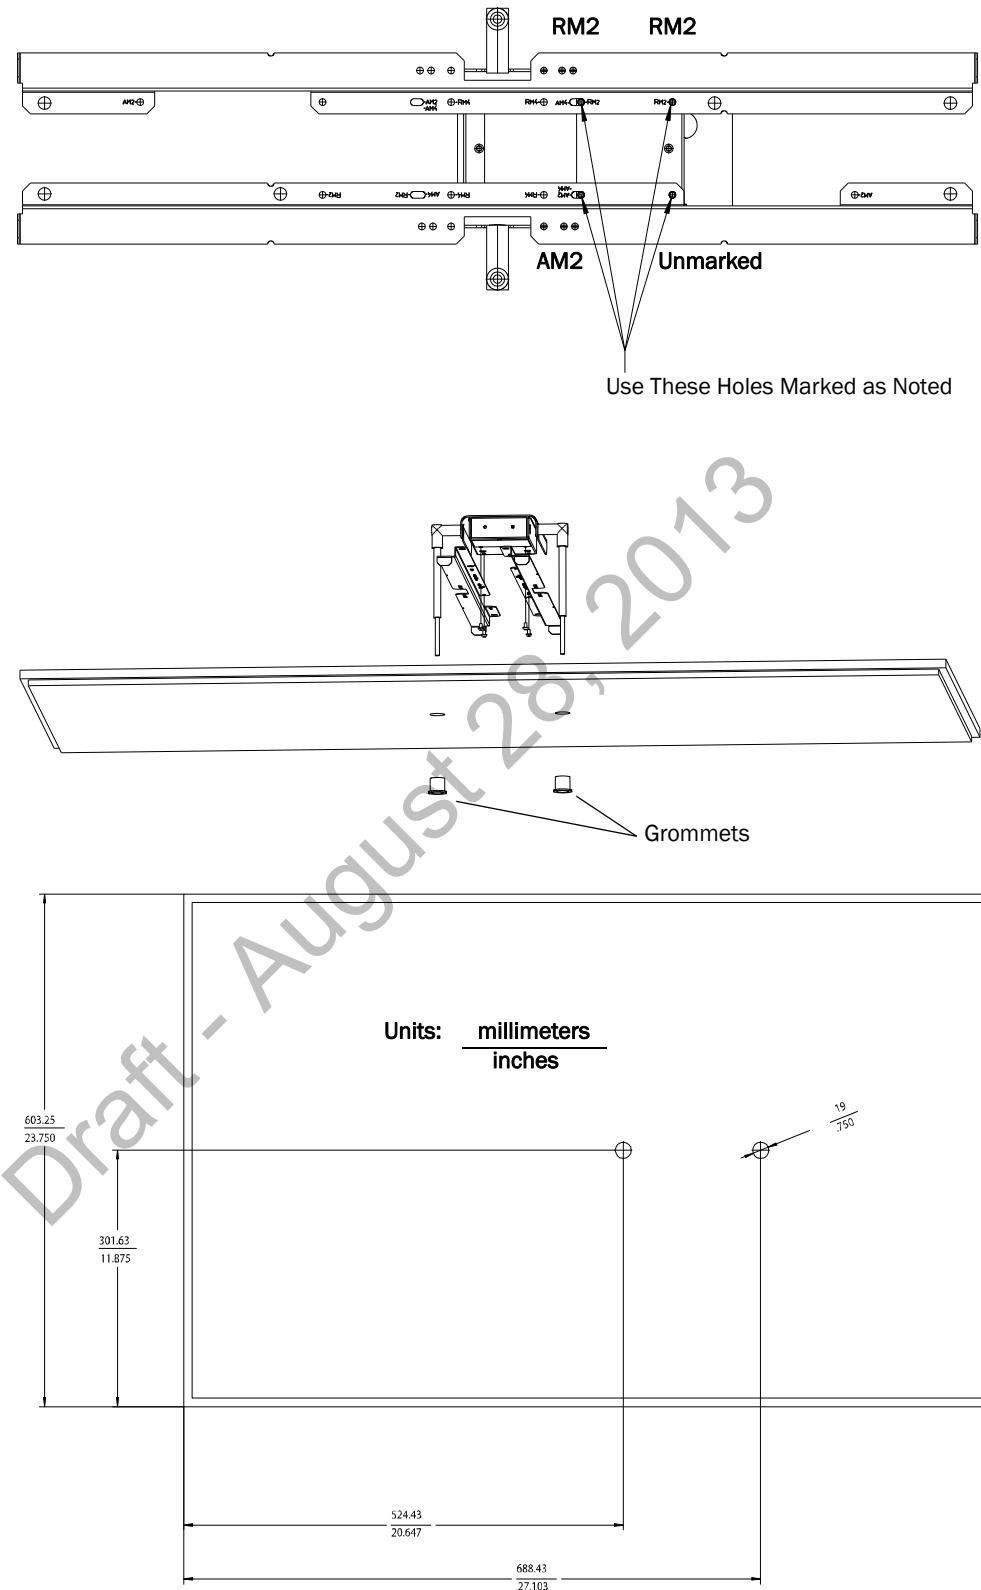
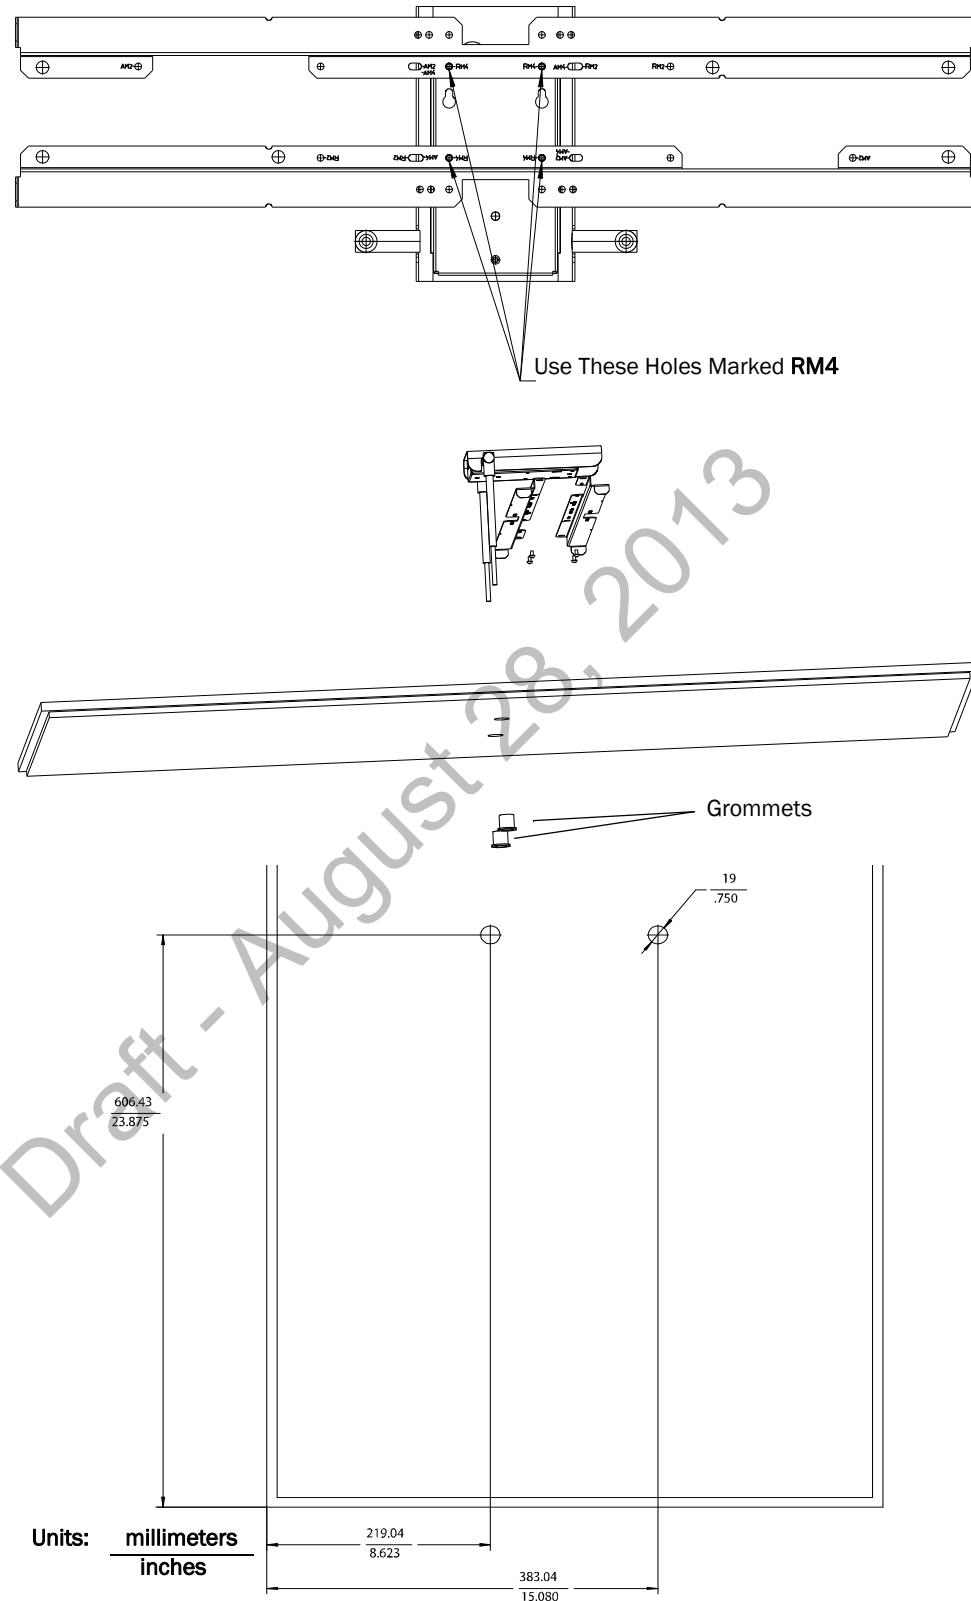
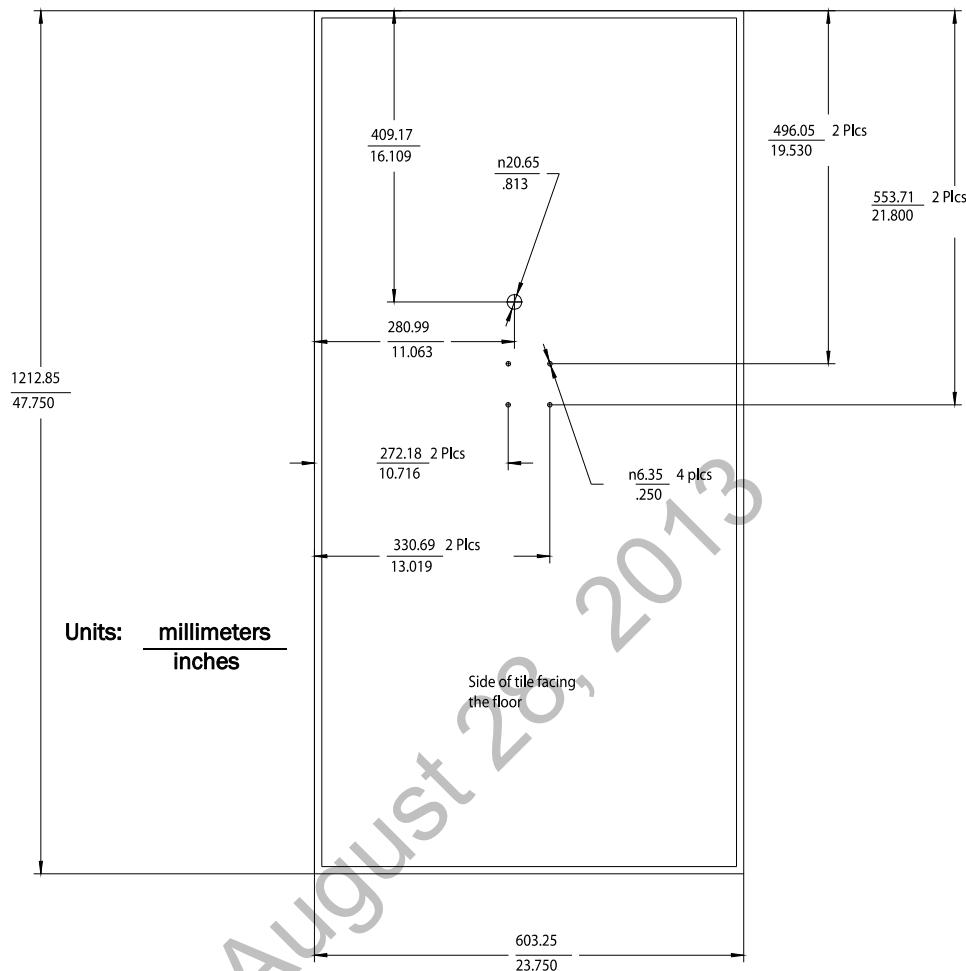

Figure 2-16: Possible Above the Ceiling Remote Antenna Mounting Position
Figure 2-17: Alternative Above the Ceiling Remote Antenna Mounting Position
Figure 2-18: RA Below Ceiling Tile Hole Locations and Dimensions
The RA chassis can be rotated 90 degrees to the mounting rails. Choose the best placement of the RA to facilitate where the antennas will go through the ceiling tile. Note that there are two holes in the RA chassis to allow for tethering to other permanent structures where local building codes require this type of installation. Refer to Figure 2-16 or Figure 2-17 for the dimensions to locate the antenna holes in the ceiling tile.
6. Secure the mounting rails to the RA. Insert the four (4) M3 X 0.5 (8 mm LG) screws into the RA mounting rail holes, and into the mating holes in the back of the RA chassis as shown in Figure 2-17 or Figure 2-18. Torque-tighten each screw to 8-inch lbs.
Also, the RA chassis can be rotated 90 degrees. Choose the best placement of the RA to facilitate where the antennas will go through the ceiling tile. Refer to Figure 2-16 or Figure 2-17 for the dimensions to locate the antenna holes in the ceiling tile.
3. Refer to Figure 2-18 for all dimensions and hole locations. Place the mounting rails across the tile (underside of tile). For ceiling tiles that are smaller than standard 2' x 4' size ceiling tile, the mounting rails can be cut down in length at the u-shaped cutouts.